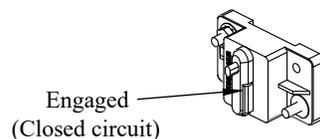

Figure 12: Engaged circuit breaker.
1. **Connect** the 4ga power cable to the positive side of the battery (Customer Connection Point on the driver seat pedestal on some Ford Transit vans) or manually **Engage** the circuit breaker (Figure 12).
11. **Connect** the 4ga power cable to the positive side of the battery (Customer Connection Point on the driver seat pedestal on some Ford Transit vans) or manually **Engage** the circuit breaker (Figure 12).